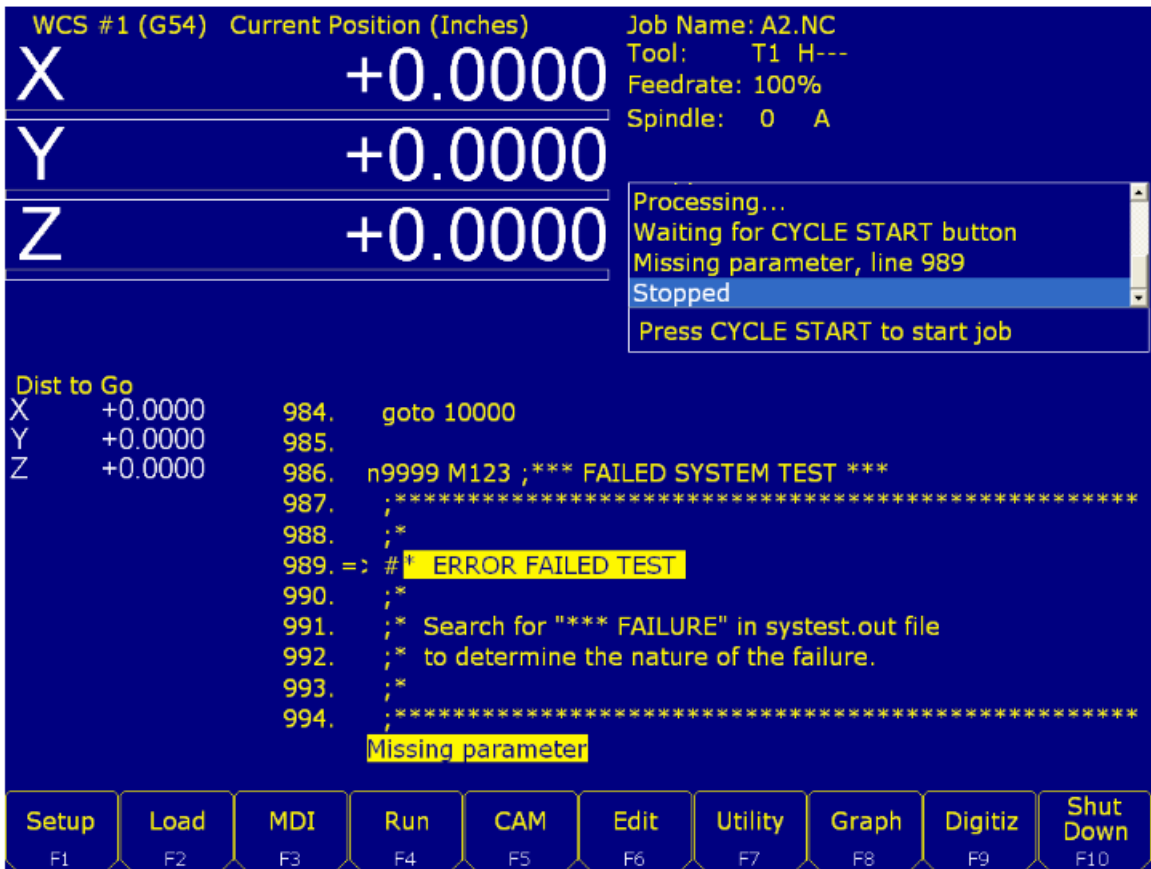
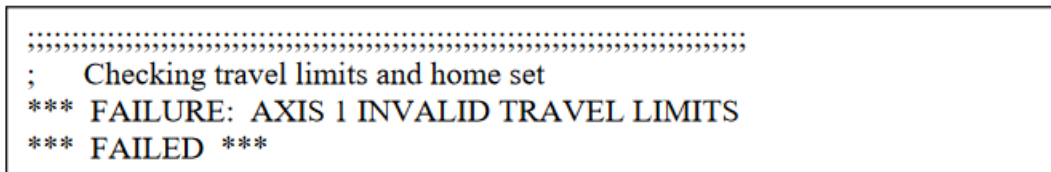

Figure 11.4
Figure 11.5
4. If the System Test fails at any time while testing, you will see “Missing parameter, line 989” on the Config Screen. To fix this, go back to the main screen, where you will see the following screen (see Figure 11.4). Load the `systemtest.out` file located in the CNC software directory and press **F6 – Edit** to see exactly what failed (see Figure 11.5).